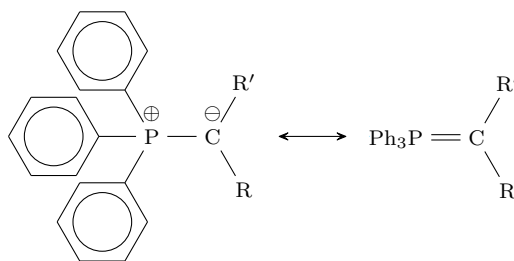

Figure 16.25: Phosphorous ylide.
- The reactivity of phosphorous ylides is dominated by the left resonance structure in Figure 16.25.